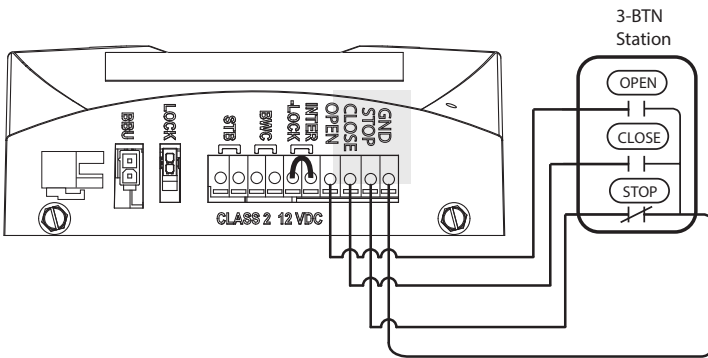

Fig. 1
1. For a single open/close/stop installation, make connections as shown in Fig. 1.